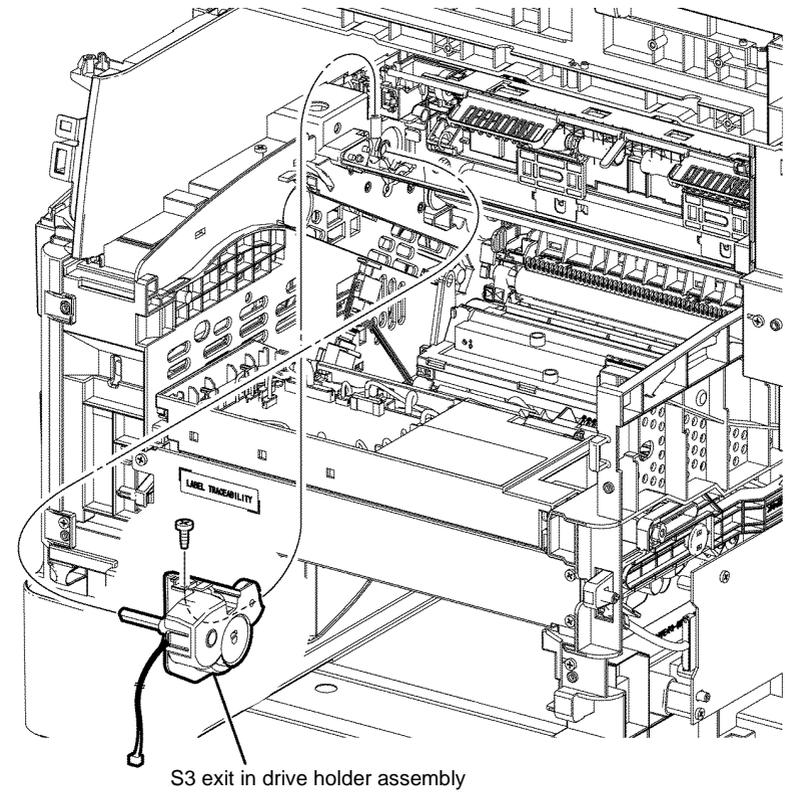

Figure 3 Exit in drive holder assembly removal
15. Remove one screw (silver, tapping, 8mm) that fixes the exit in drive holder assembly, then remove the exit in drive holder assembly from the printer, Figure 3.